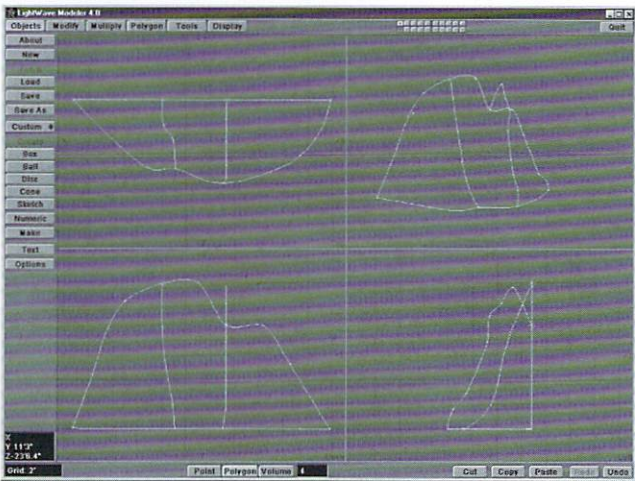

Figure 3
- Again, use **Create Points** to make the points and **Make Curve** to make the curve. Did you remember to highlight the points on the very top and extreme bottom of the mountain? If you forget to include them, the curves will not be sharing common points, and you'll have to deselect the points, reselect them in order (top to bottom or bottom to top) and then re-create them. You should have something that looks like Figure 3.